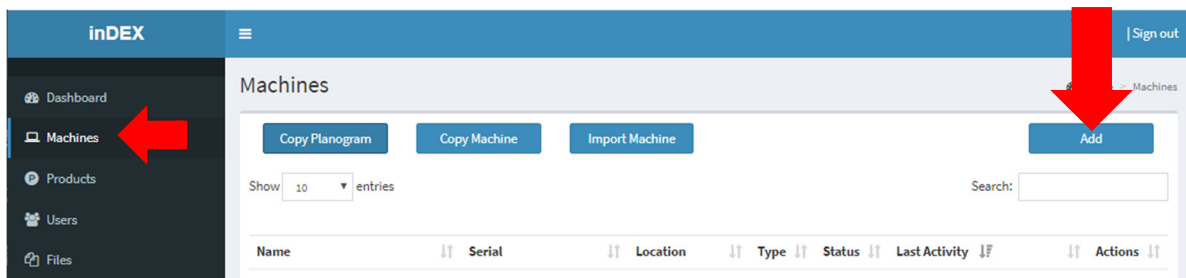

Figure 7
- To create a machine you will go to **“Machines”** on the left side bar menu and then click **“Add”**. You will be presented with the General Machine Information Tab where you will configure your first machine’s setting that identify the machine, it’s type, location, screen interface size, support information and preliminary product configuration template settings. (See figures 7 through 9)